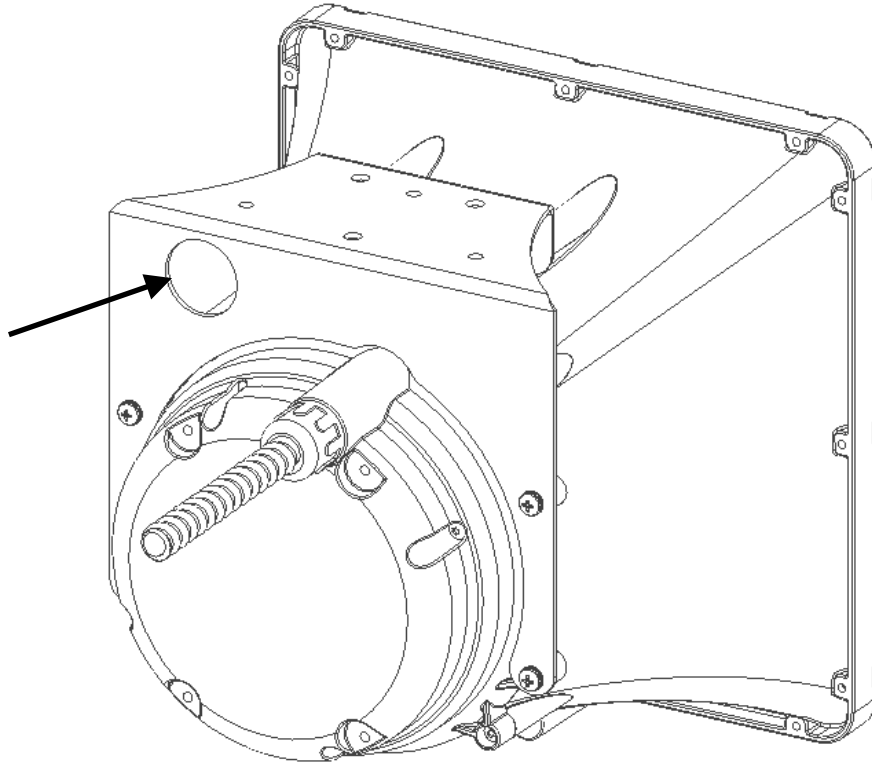

Figure 6: Tether Attachment Point
- 1) A tether cable may be attached to all speakers by looping the cable through the large hole in the Magnacast II mounting bracket (Figure 6).